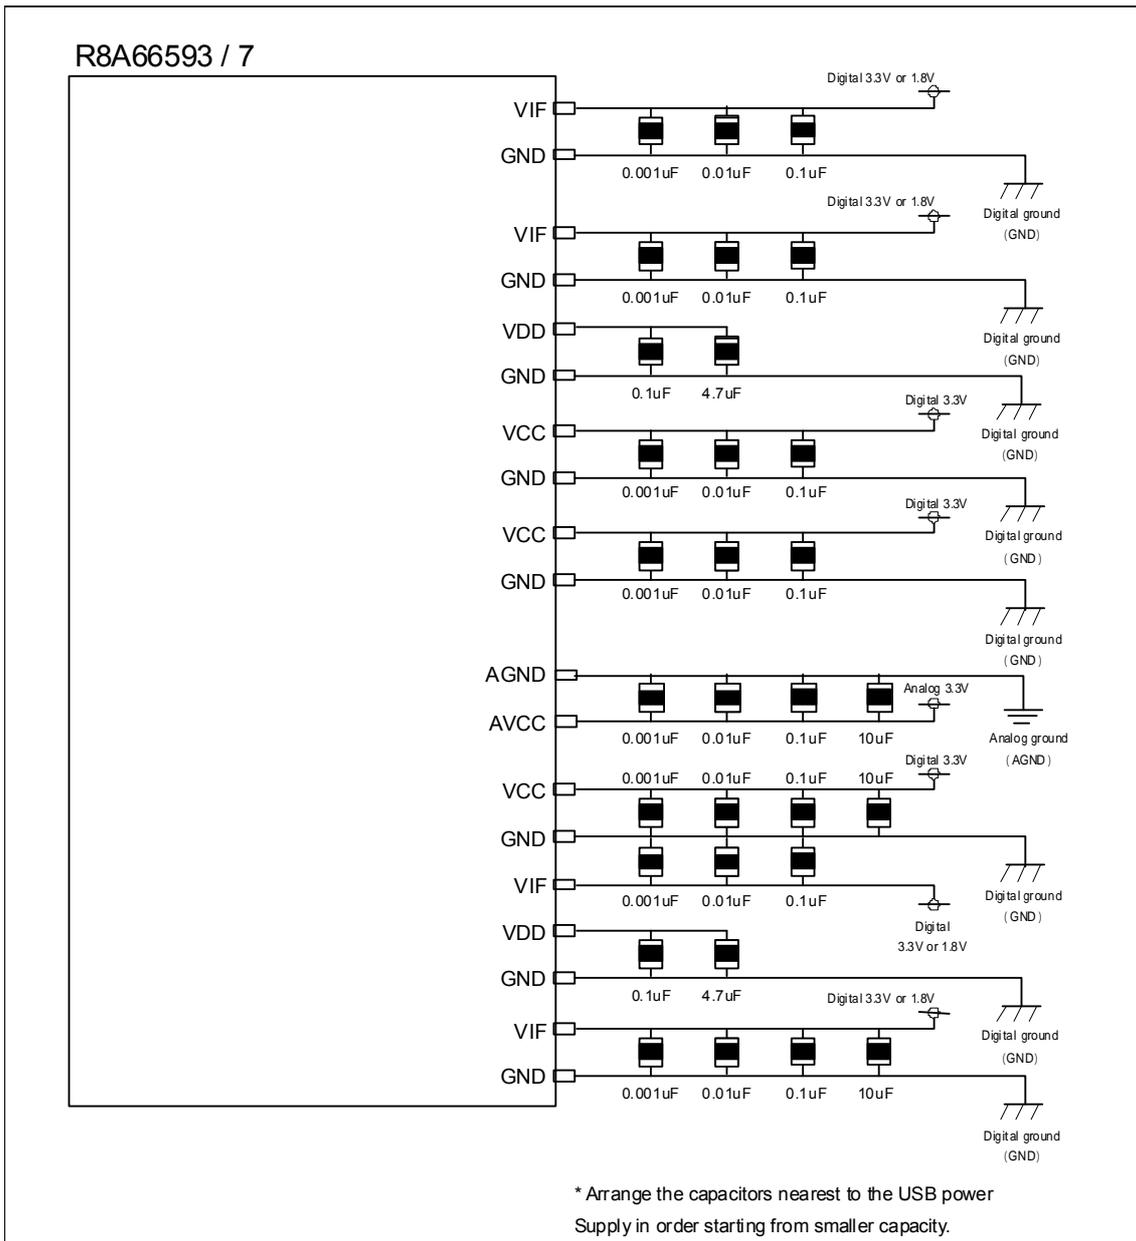

Figure 3 Example of Decoupling Capacitor Allocation
- As the capacitance value of decoupling capacitor, it is recommended that the capacities for 0.001uF, 0.01uF, 0.1uF, and 10uF are allocated closest to the USB power supply pin. Figure 3 shows an example of decoupling capacitor allocation.